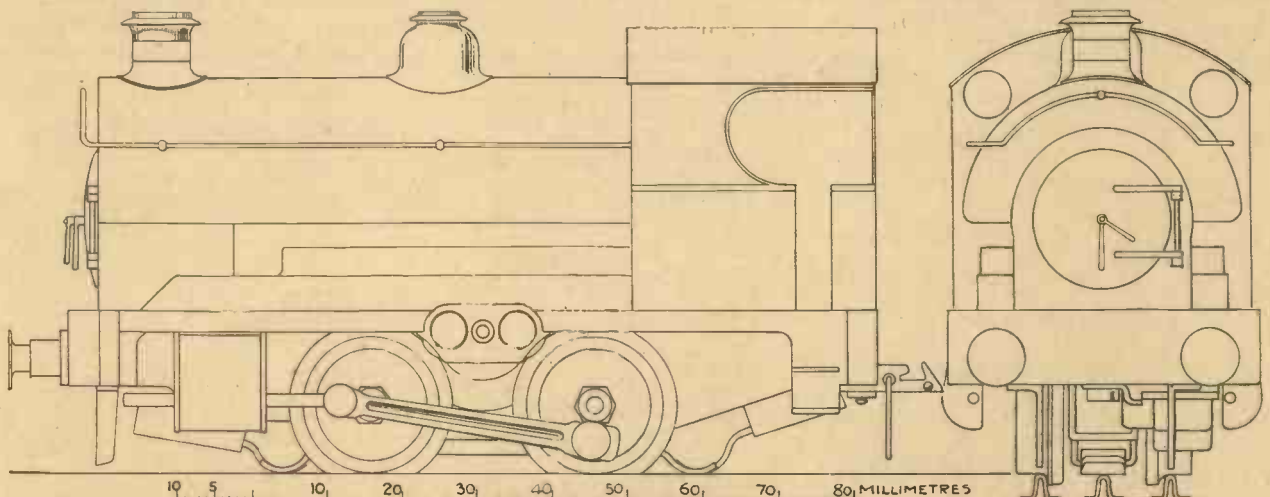

Fig. 5.—A model of a Peckett saddle-tank engine.
**T**HE first suggestion for converting the existing Twin-train locomotive is for a type of engine which, although it may not be liked by many, will perhaps appeal to some people who, not having the space available for a complete railway system, would care to build a model of a colliery, a factory yard or something of the sort consisting chiefly of sidings with points and switches where shunting and marshalling of trains can be carried on. As everyone knows, for colliery working at the surface, four-wheeled shunting tanks, usually saddle tanks, with outside cylinders are employed, and in Fig. 5 the model is made to represent one of these as built by Messrs. Peckett & Son, of Bristol. Such a model as this, when it is modified as regards the superstructure by the addition of a higher cab, and the saddle tank with the boiler mountings, all as shown, increases the height to such an extent that the scale can be no longer either  $3\frac{1}{2}$  mm. or 4 mm. to the foot. As a matter of fact, it works out at about 5 mm. to the foot and the gauge of track would be 3 ft. 6 in. in the prototype: quite a common gauge, of course, as it is the standard gauge throughout South Africa.